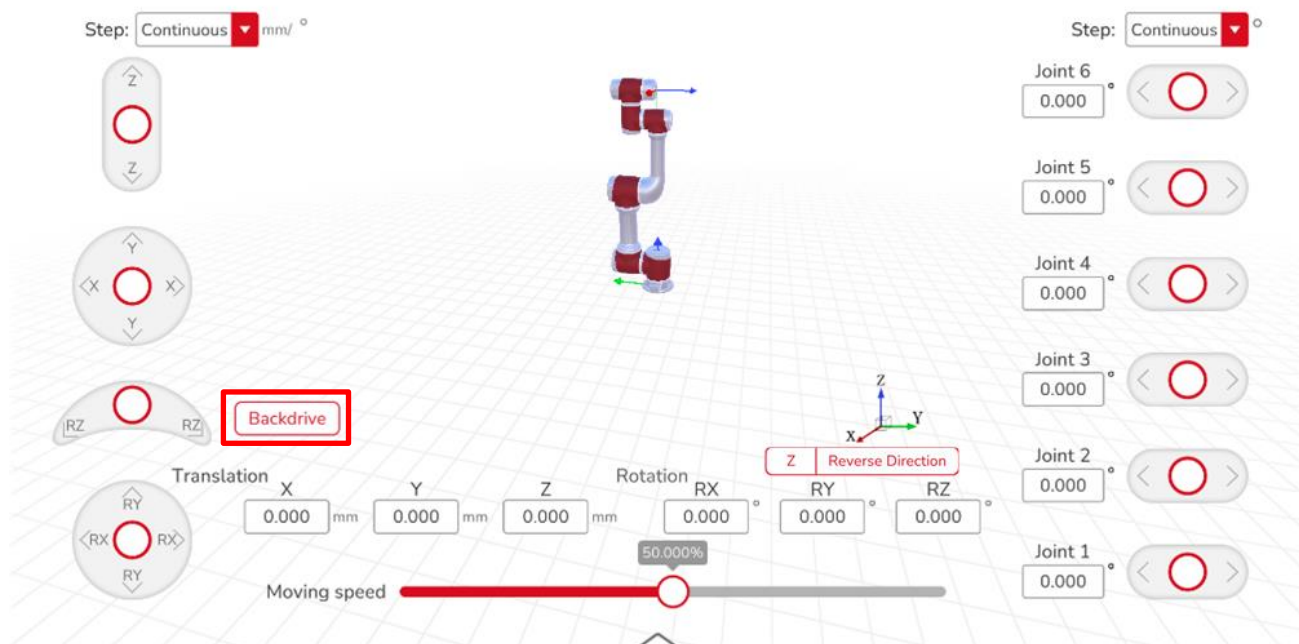

Figure 2-9: Backdrive button on JAKA App
3. Press and hold the “Backdrive” button to release the joint brake (shown in Figure 2-9 below).